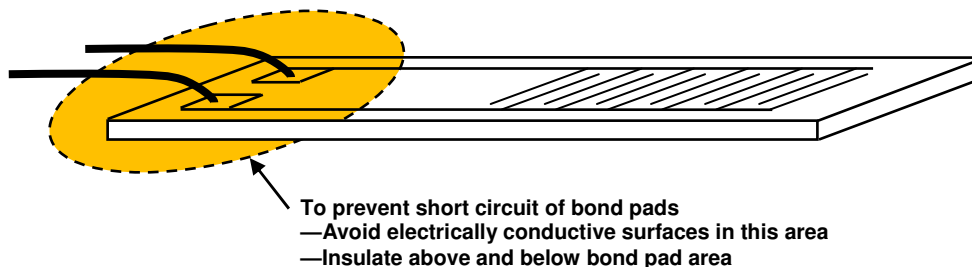

Figure 8-1
- Prevent short circuits of the sensor by covering the bond pads with Kapton® or polyimide tape, as shown in Figure 8-1.